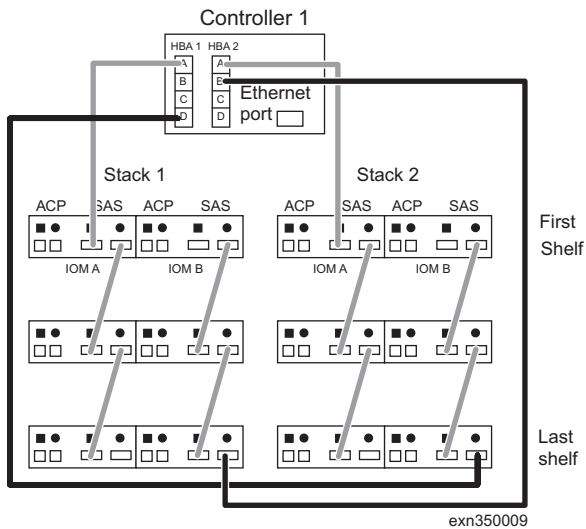

Figure 10. Cable the last SAS connections
3. Cable the last shelf SAS connections as shown in Figure 10 on page 8.